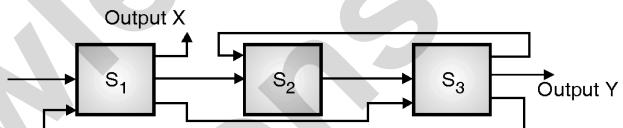

Fig. 10.7.11 : A 3-stage non linear pipeline
- But in a non-linear pipeline allows feed forward and feedback connections in addition to the streamline connection. It may also have more than one output i.e. the output need not be from the last stage. An example of three stage non-linear pipeline system is shown in Fig. 10.7.11.
- In the Fig. 10.7.11 besides the three stages connected in streamline, there are also some feedback and feedforward connections.
- There are two examples of different operations say, X and Y , for which the reservation table is shown in Fig. 10.7.11.